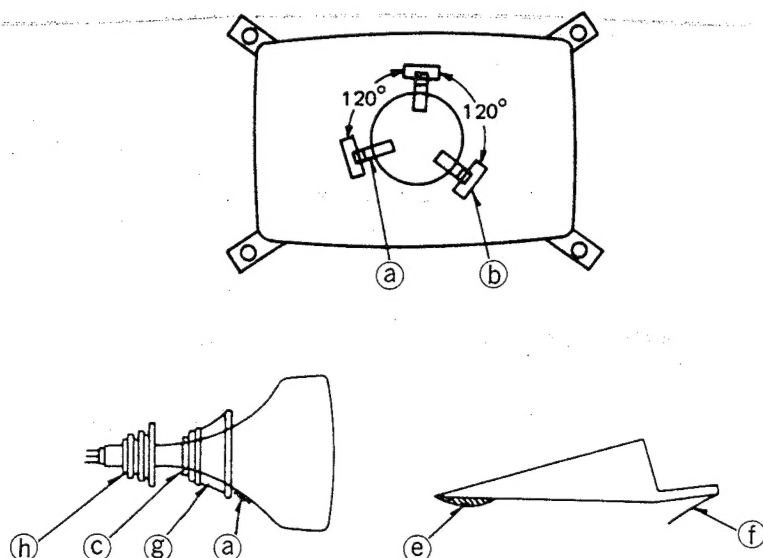

Fig. 7
5. Apply silicone adhesive to part Ⓐ using Ⓓ as shown in fig. 7. After removing the separator from part Ⓐ, insert part Ⓐ between picture tube and deflection yoke, and install the deflection yoke firmly.